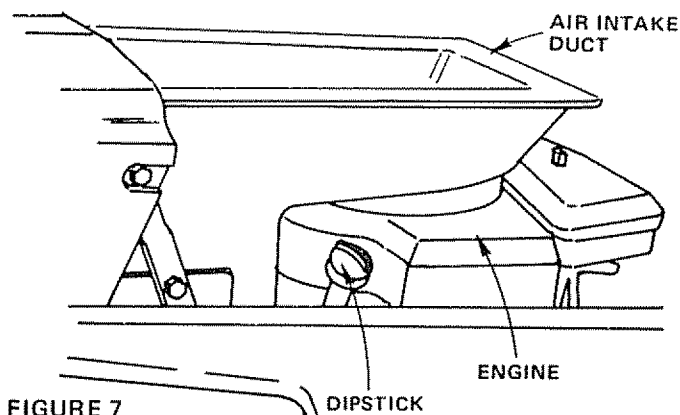

FIGURE 7
1. This engine has been shipped filled with oil. Check Engine Oil Level with Tractor on level ground. Wipe Dipstick (Fig. 7) clean, screw it in tight for a few seconds, remove and read Oil Level. If necessary, add Oil until "FULL" mark is reached.
NEVER RUN THE ENGINE WITHOUT AIR INTAKE DUCT INSTALLED (FIG. 7). MAKE SURE BOTTOM LIP OF AIR INTAKE DUCT SITS BETWEEN BATTERY AND LIP OF BATTERY TRAY.